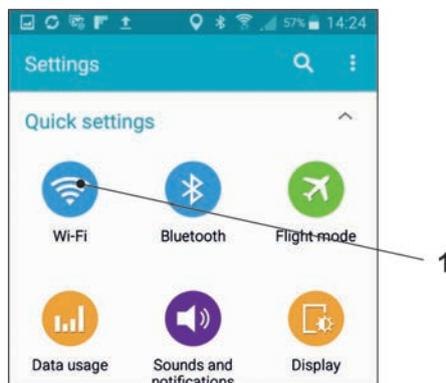

Fig. 26-2 WLAN symbol
3. Select WLAN (Fig. 26-2 Pos. 1).